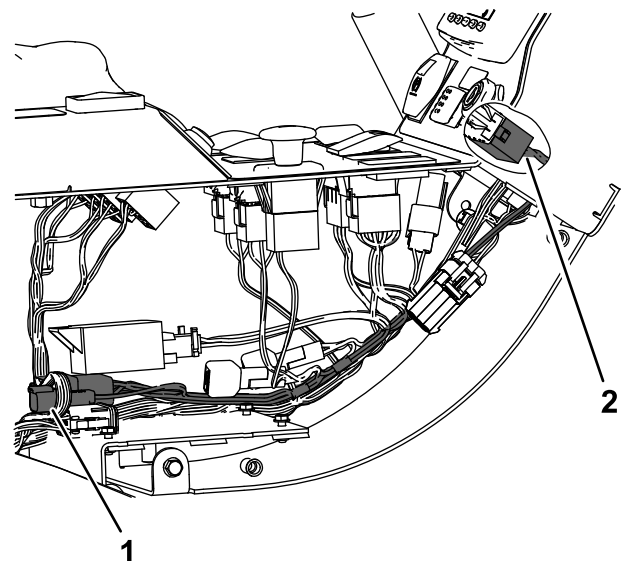

Figure 5
1. Connect the new wire harness to the auxiliary-brake switch (Figure 5).
2. Connect the wire harness to the EU light power connector inside the console (Figure 5).